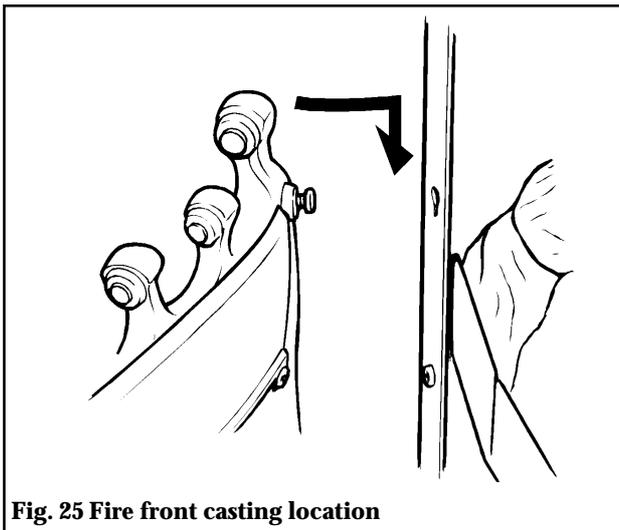

Fig. 25 Fire front casting location
- 11.1 All models except black & chrome front casting Fit the fire front casting to the front surround. Locate the two screw heads at the rear top corners of the casting through the keyhole slots at the inner sides of the surround. If the screw heads do not project enough or project too far, the screws can be adjusted. Lower the casting so that it rests on the hearth (see figure 25).